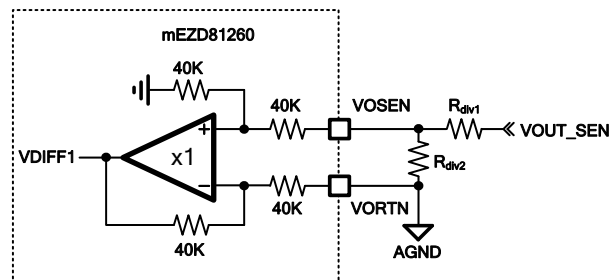

Figure 3 Output Divider Connections when Remote Sense is not Applied
For output voltage designs above the VOSEN pin specification, connect the output divider as shown in Figure 3. VORTN is connected to GND directly to disable remote sensing.
Use equation (5) to calculate the voltage divider ratio in Figure 3.
Table 1 shows the recommended output divider resistors and PMBus register settings for typical POL output voltages. Table 1-a shows the resistor values in Figure 4 when remote sensing is applied. Table 1-b shows the resistor values in Figure 3 when remote sensing is disabled.